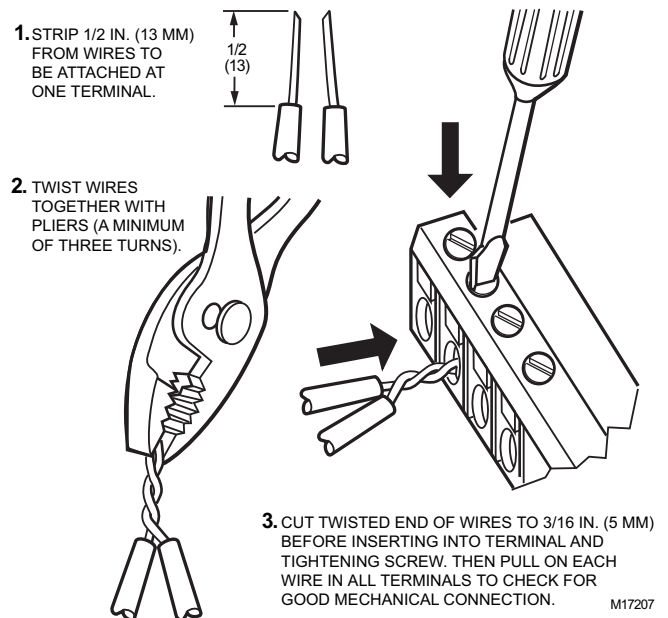

Fig. 14. Attaching two or more wires at terminal blocks.
NOTE: When attaching two or more wires to the same terminal, other than 14 AWG (2.0 sq mm), be sure to twist them together. Deviation from this rule can result in improper electrical contact (see Fig. 14).
3. If two or more wires are being inserted into one terminal location, twist the wires together a minimum of three turns before inserting them (see Fig. 14).
Fig. 16. Controller wiring diagram (model PVB6438NS shown) for typical VAV application, using the TR23 wall module and a C7770A air temperature sensor. (For note 2, refer to Fig. 14.)